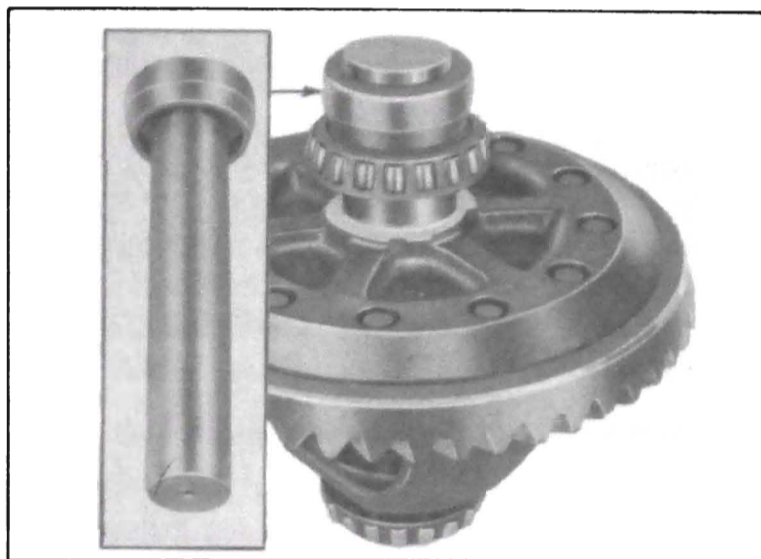

Figure 6-14—Installing Differential Bearing Using Replacer J 2242
3. Install bearing, using Replacer J 2242, which is designed to pilot in the case and bear squarely against bearing inner race. See figure 6-14. Bearing must be *pressed (not hammered)* tight against shoulder on case.